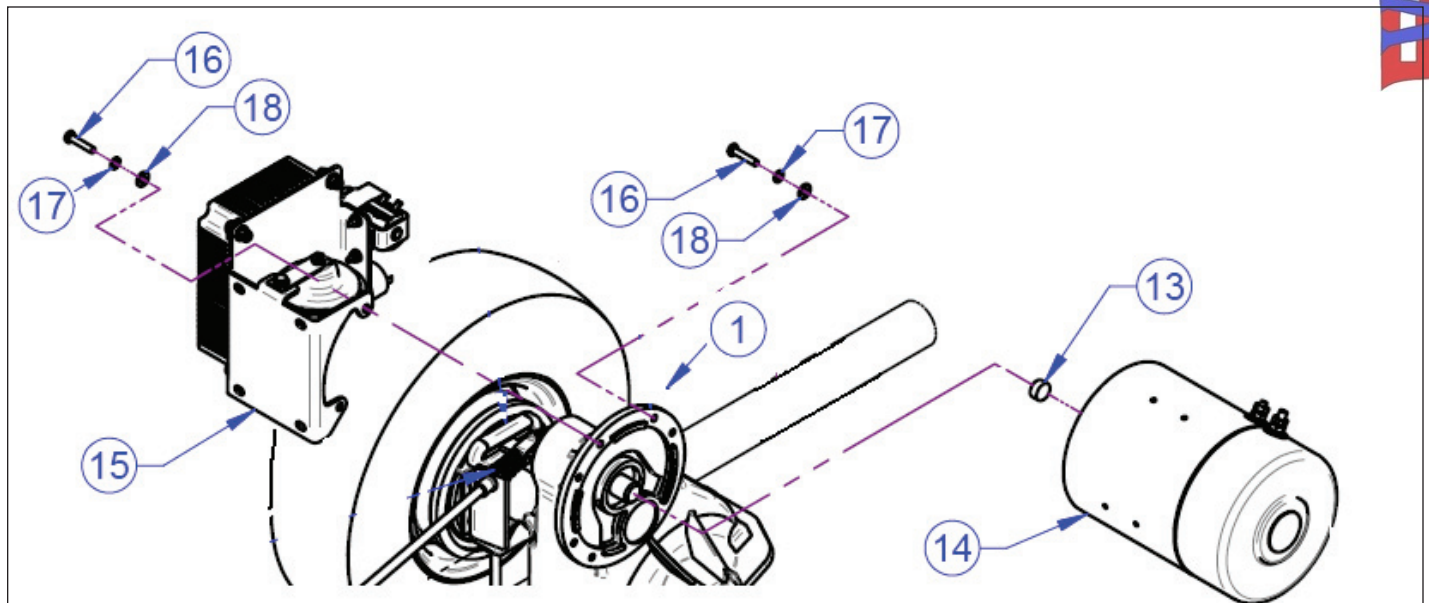

Figure 10-3. Traction Motor Mounting
3. See Figure 10-3. Carefully support motor to prevent it from falling, and loosen and remove three bolts (16), lock washers (17) and flat washers (18) securing motor (14) to rear axle/differential housing (1). Pull motor away from rear axle housing and lift it clear of the vehicle.